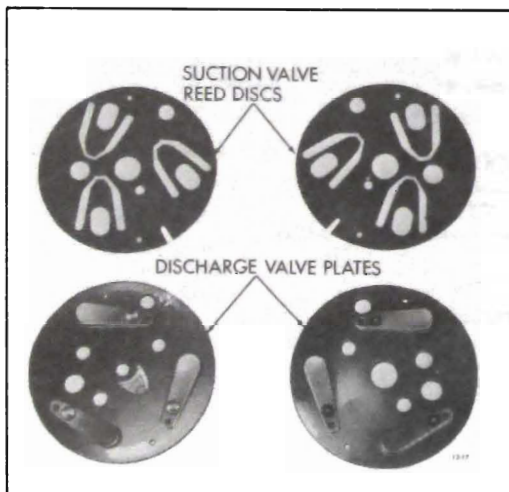

Figure 13-28 Compressor Suction Valve Reed Discs and Discharge Valve Plates
1. Suction Valve Reed Discs and Discharge Valve Plates - The two suction valve reed discs and two discharge valve plates (see Figure 13-28) operate in a similar but opposite manner. The discs are composed of three reeds and function to open when the pistons are on the intake portion of their stroke (downstroke), and close on the compression stroke. The reeds allow low pressure gas to enter the cylinders. The discharge valve plates also have three reeds, however, they function to open when the pistons are on the compression portion of their stroke (upstroke), and close on the intake stroke. High pressure gas exits from the discharge ports in the discharge valve plate. Three retainers riveted directly above the reeds on the valve plate